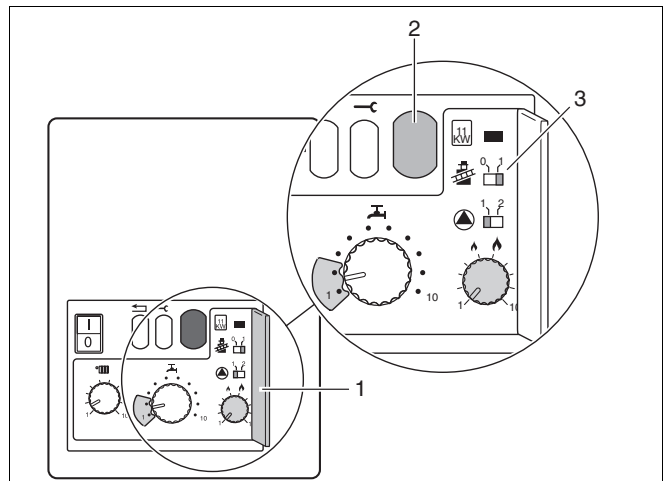

Fig. 26 Display and chimney-sweep switch
- Open cover for 2nd operating level (fig. 26, item 1).
- Start boiler up and move chimney sweep switch (fig. 26, item 3) to position "1".
The display shows (fig. 26, item 2) “ - .” to indicate that the gas supply system is purged of air. Return chimney sweep switch to position “0”.